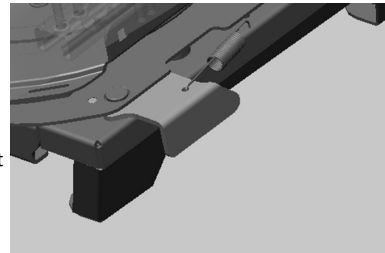

FIG 3.
5. To ensure the seat is in its locked driving position, attempt to pull the seat inboard. If the seat still slides, it is still unlocked, repeat step 3. The seat latch should be its closed position. (FIG 3)
**THE LATCH SHOULD BE IN LINE TO THE BASE AND THE SEAT SHOULD NOT ROTATE OR SLIDE DIAGONALLY WHEN IN DRIVING POSITION (SEE FIG 3). DO NOT OPERATE THE VEHICLE WHEN ANY SEAT IS IN AN UNLOCKED POSITION.**